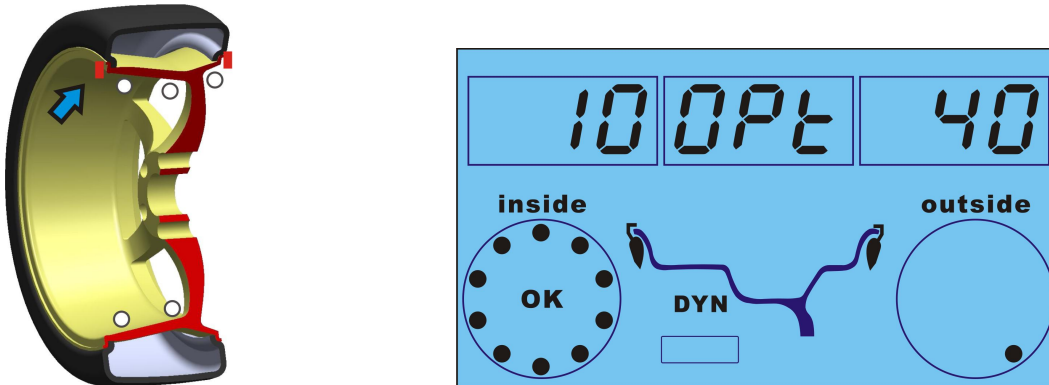

Fig. 4
4.1.7. Anticlockwise rotate wheel slowly, until the left LED lit up full, clip weight on 12 o'clock position (Fig.4)